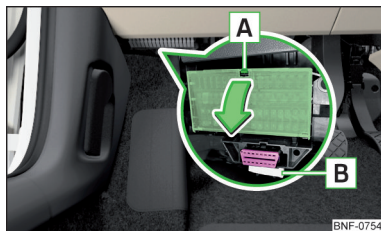

Fig. 134
The fuses are located underneath the steering wheel on the underside of the dash panel » Fig. 134.
- Press securing tab **A** » Fig. 134.